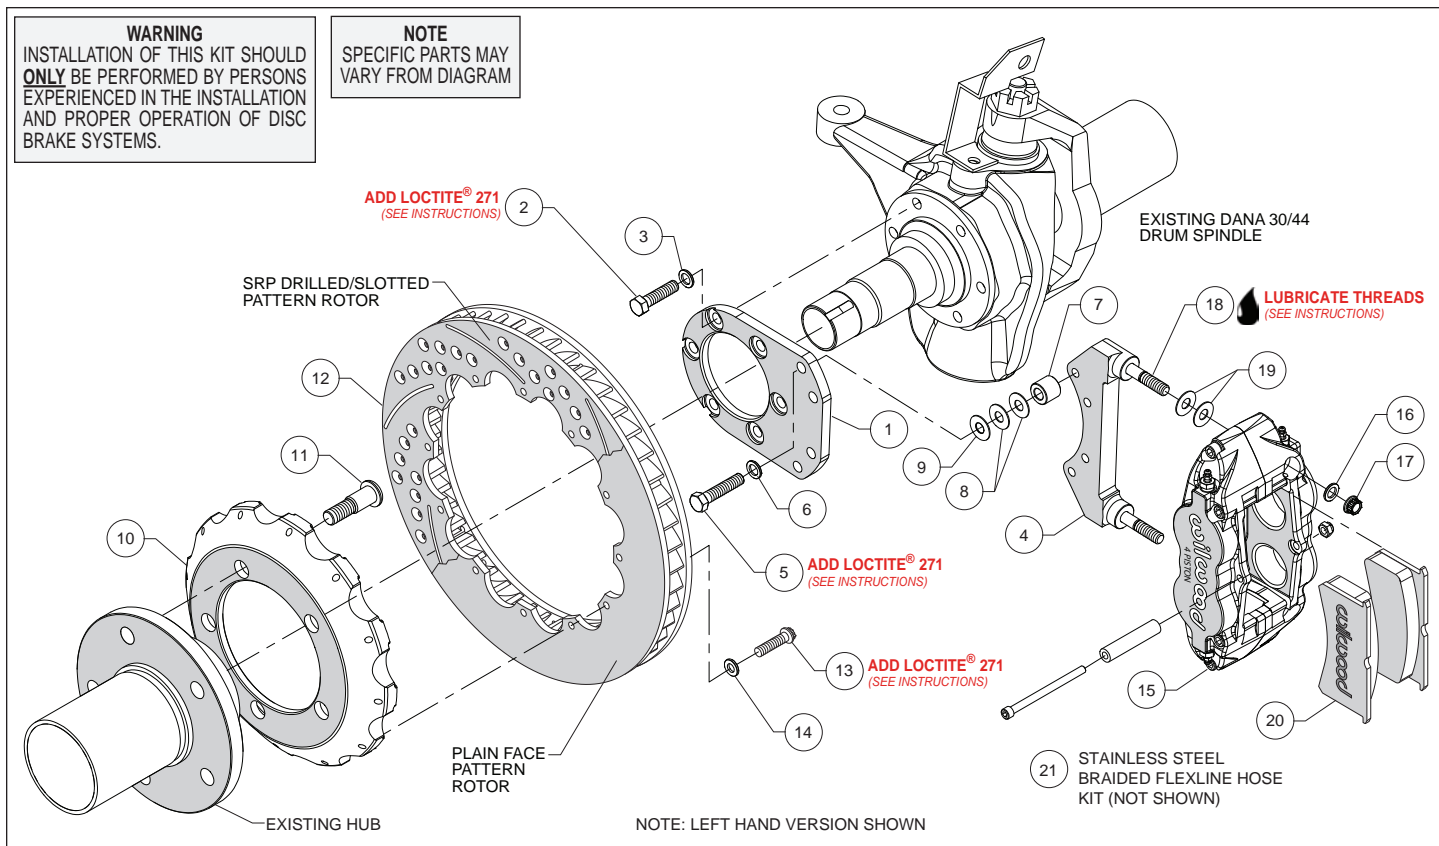
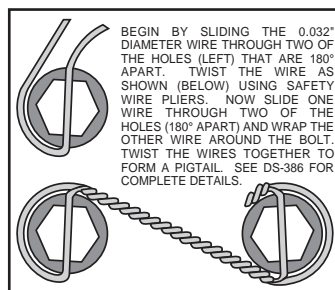

Figure 1. Typical Installation Configuration
Figure 3. Safety Wire Diagram
Assembly Instructions (numbers in parenthesis refer to the parts list and Figure 1 on the preceding pages):
- Orient the flat mount bracket (1) as shown in Figure 1 and Photo 1, and install using bolts (2), and washers (3). Ensure that the counterbored holes in the bracket are facing outboard, Figure 1. Temporarily tighten the mounting bolts. **NOTE:** *The bracket must fit squarely against the mount bosses on the upright.* Inspect for interference from casting irregularities, machining ridges, burrs, etc. Remove bolts one at a time, apply red *Loctite*® 271 to the threads and torque to 40 ft-lb.
- The caliper mount bracket (4) should initially be installed with clean, dry threads on the mounting bolts. Orient the bracket as shown in Figure 1 and Photo 2, and install using mount bolts (5) and washers (6). Initially place two .035" thick shims (8) and spacer (7) on each bolt between the flat and caliper brackets, Figure 1. Temporarily tighten the mounting bolts. Later, after the caliper alignment has been checked, the mount bolts will be secured using red *Loctite*® 271.
- Orient the hat (10) and the OEM hub as shown in Figure 1 and Photo 3. **NOTE:** *The hat must fit flush against the axle hub or excessive rotor run out may result.* Install the wheel studs (11) thru the holes in the hat and press into the existing hub. **NOTE:** *We recommend this procedure be performed by a qualified machinist.*
- Orient the rotor (12) and the hat/hub assembly as shown in Figure 1 and Photo 4. Attach rotor to hat using bolts (13) and washers (14). Using an alternating sequence, apply red *Loctite*® 271 to the threads, and torque to 155 **in-lbs**. For an added measure of security, the bolts may be safety wired using standard 0.032 inch diameter stainless steel safety wire as shown in Figure 3. Please refer to Wilwood's data sheet DS-386 (available at www.wilwood.com/Pdf/DataSheets/ds386.pdf) for complete safety wire installation instructions.
- Lubricate the caliper mounting studs (18) with lightweight oil. Initially place two .035" thick shims (19) on each stud as shown in Figure 1 and Photo 5. Mount the caliper (15) onto the bracket (4) using lock nuts (17) and washers (16), Figure 1. Temporarily tighten the lock nuts and view the rotor through the top opening of the caliper. The rotor should be centered in the caliper, Photo 6. If not, adjust by adding or subtracting shims (8 and/or 9) between the spindle bracket and caliper bracket. Always use the same amount of shims on each of the four mounting bolts. Once the caliper alignment is correct, remove the bracket to bracket mounting bolts (5) one at a time, apply red *Loctite*® 271 to the threads, and torque to 35 ft-lb.